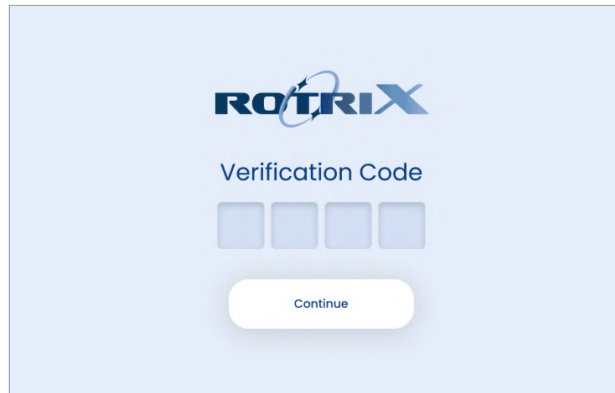

Figure 3: Verification code prompt
- Once signed up, a One-Time Password (OTP) verification code will be sent to your registered email ID. Enter the OTP when prompted (as in Figure 3) and click 'Continue' to activate your account.